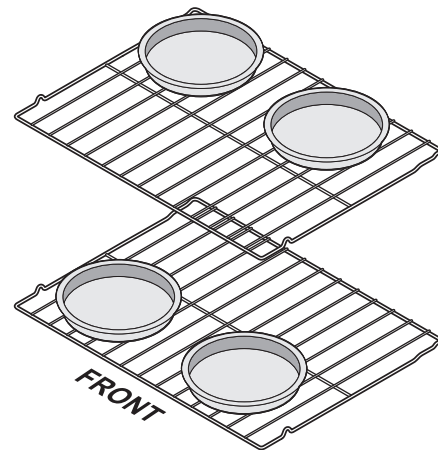

Figure 3: Pan spacing using multiple racks
- When using 2 oven racks for baking, position cookware as shown in (Figure 3).